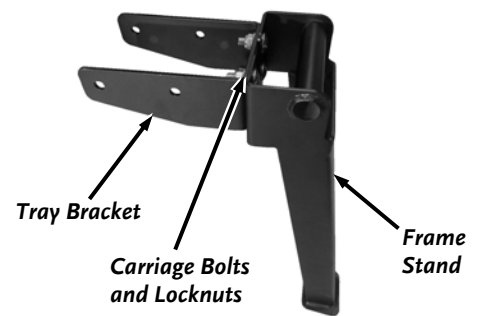

Figure 15
5. Install the Tray Bracket to the Frame Stand with four 3/8-16 x 1" Carriage Bolts and Locknuts using two 9/16" Wrenches (**Figure 15**).